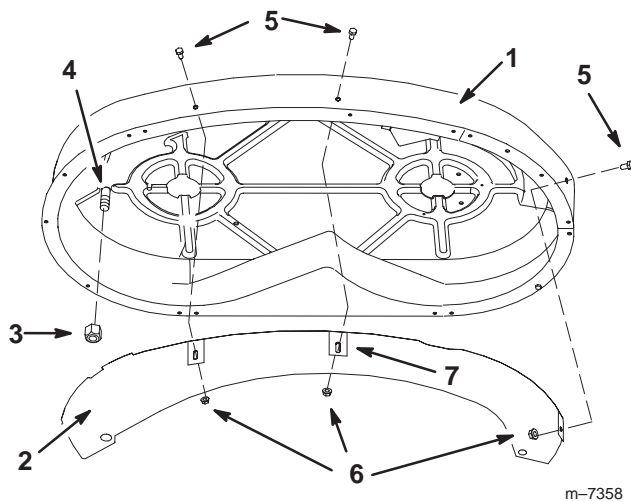

Figure 1
2. Remove the bolts and flange nuts from the front side of the deck that line up with the three tabs of the upper baffle as shown in Figure 1.